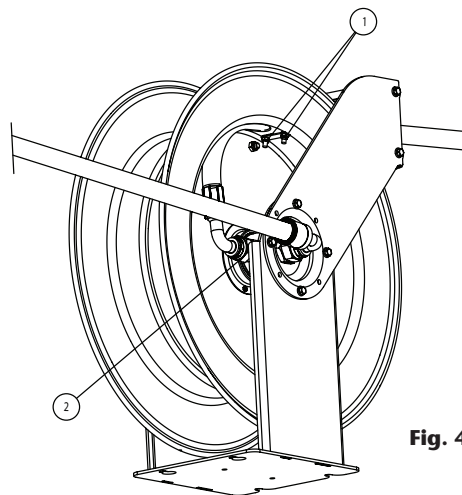

Fig. 4
2. Connect the new hose to the swivel (2) (Fig. 4), place the U-bolt (1) (Fig. 4) in such a way that it firmly holds the hose against the spool, and start to wind the hose into the spool turning the spool manually.
2. Remove the U-bolt by loosening its nuts (1) and disconnect the hose from the swivel (2) (Fig. 4).